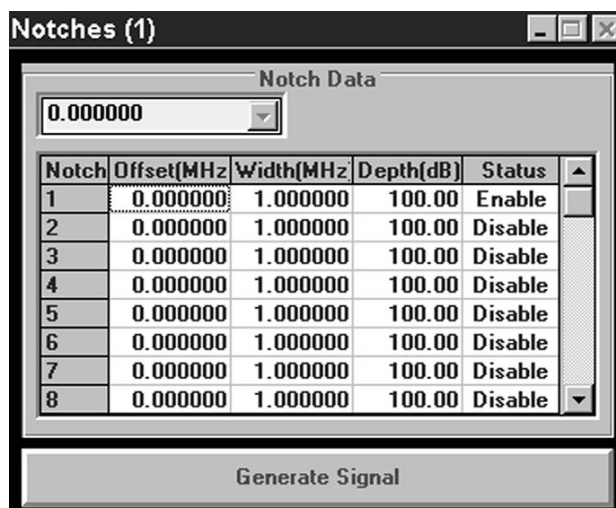

Figure 8. Notches window
Figure 8 shows the Notches window. This window, usually found minimized and below or behind the stimulus window, allows control of up to ten notches. Maximize this window by either clicking on it or using the window's pull-down menu. You can set width, depth, and offset from the center frequency for each notch. The system has a 1 MHz notch at the center frequency as a default. Examples of uses for additional notches include looking at the IMD in special bands and creating CW tones in the primary notch for use as a calibration tool. The on-line help menu shows how to create multiple notches.
7) Create the notch. Double-click on the Notches icon or select the Notches window from the pull-down menu. This icon is usually located below or behind the NPR Stimulus window. Figure 8 shows the Notches window. Maximize the Notches window. The top of the Notches window will display how many notches are activated.